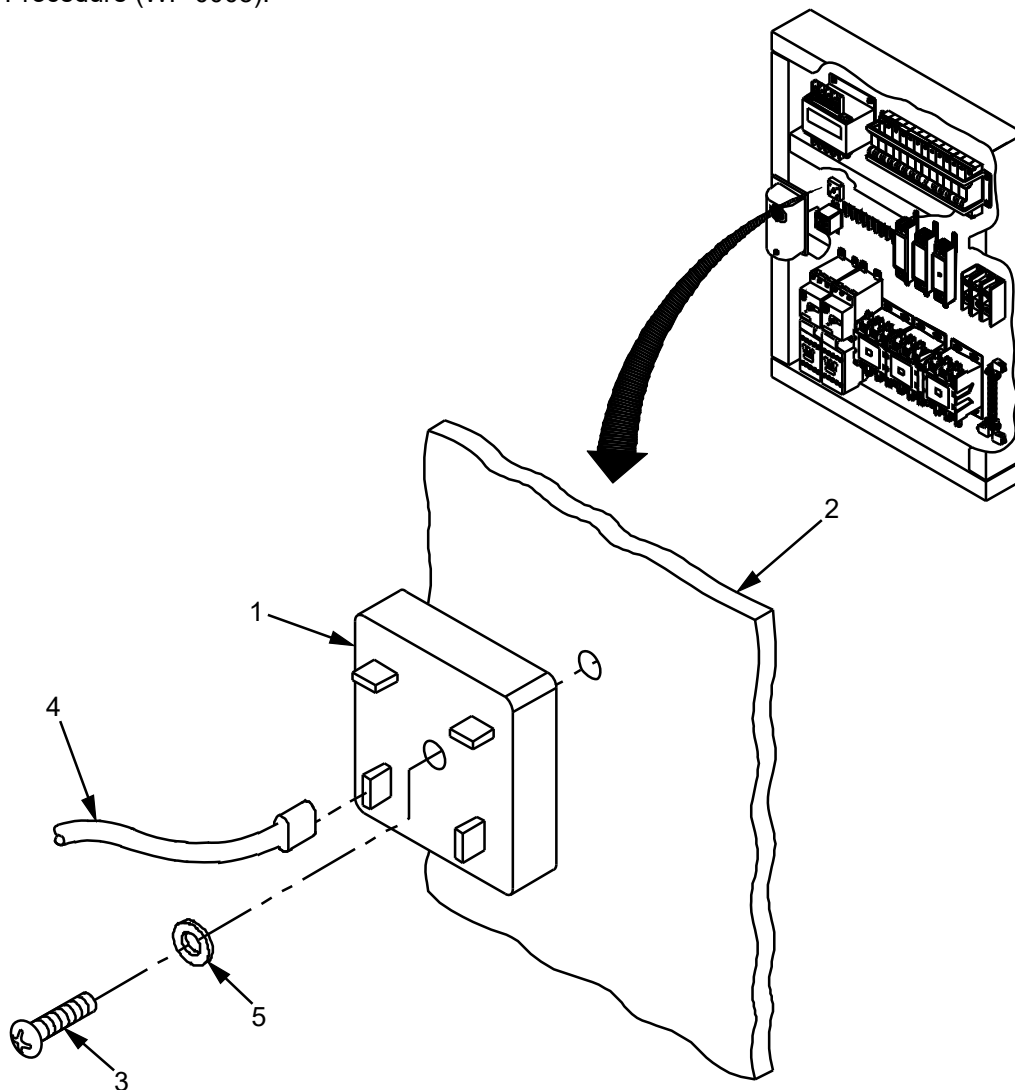

Figure 2. Bridge Rectifier Replace.
3. Verify that all electrical wires (Figure 2, Item 4) connected to bridge rectifier (Figure 2, Item 1) are properly identified.
4. Disconnect electrical wires (Figure 2, Item 4) from bridge rectifier (Figure 2, Item 1).
5. Remove and retain screw (Figure 2, Item 3) and flat washer (Figure 2, Item 5) that secure bridge rectifier (Figure 2, Item 1) to control panel (Figure 2, Item 2) and remove bridge rectifier (Figure 2, Item 1).
1. Install bridge rectifier (Figure 2, Item 1) onto control panel (Figure 2, Item 2) and secure using screw (Figure 2, Item 3), and flat washer (Figure 2, Item 5).
2. Inspect all electrical wires (Figure 2, Item 4) being connected. Ensure no physical damage is present. If necessary, repair or replace.
3. Connect all electrical wires (Figure 2, Item 4) to appropriate terminals on bridge rectifier (Figure 2, Item 1).